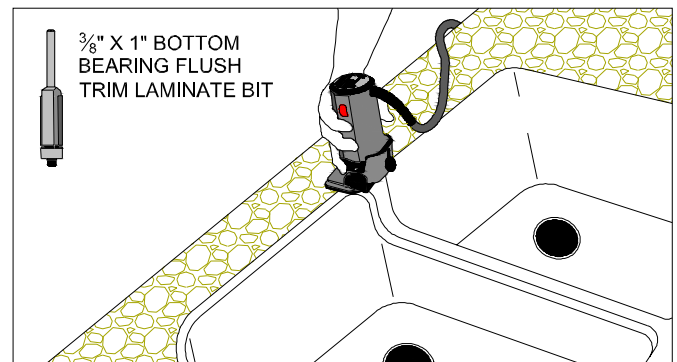

Figure 22B
- Adjust the laminate tilt-base trim router with a  $\frac{3}{8}$ " bottom bearing flush trim bit. (FIG. 22B)